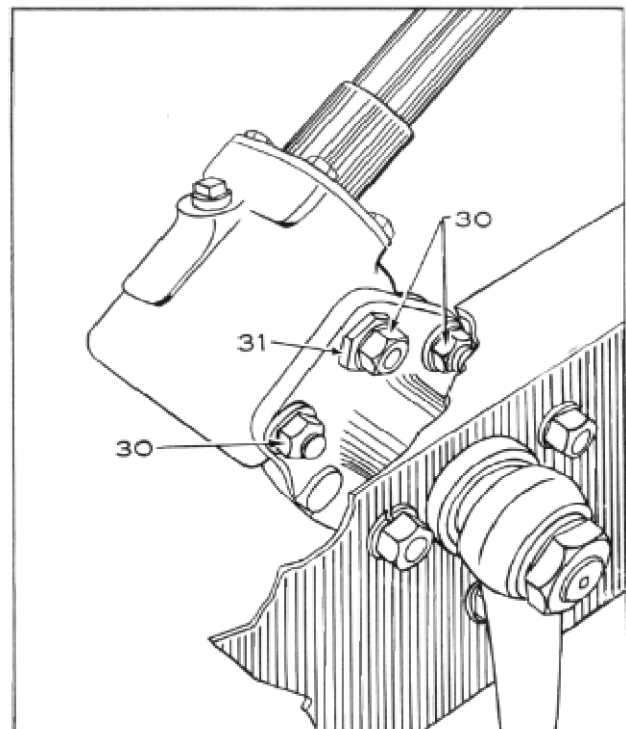

Figure 2
- (3) Loosen the four nuts (B) Fig. 2 (one not shown) on the housing cover studs one-quarter turn.
- (4) Turn the eccentric (C) Fig. 2 clockwise by gradual stages, checking the backlash by moving the steering gear arm.
- (5) Tighten nuts (B) Fig. 2 when backlash has been removed. First drag up on the nut on eccentric (C). Follow by tightening other three.
- (6) Turn steering wheel to extreme positions, right and left. If tight spots are noted, reduce clearance until tight spots are eliminated.